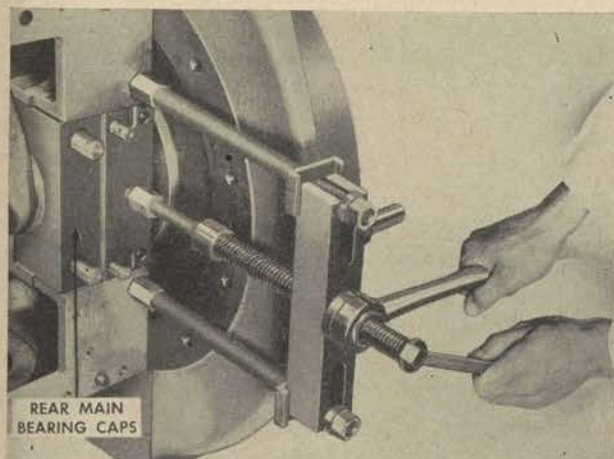
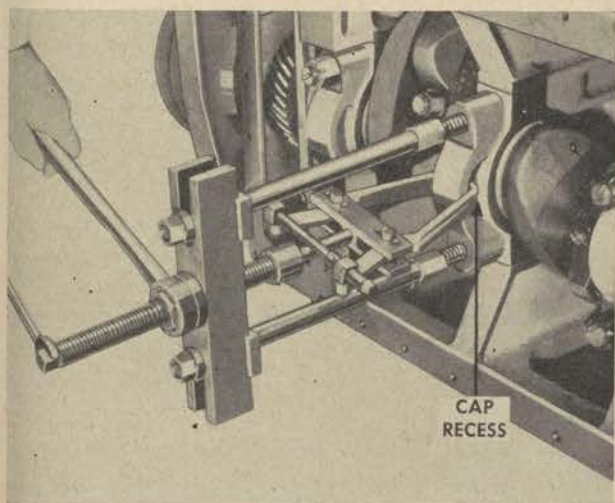

Figure 158. Removing rear main bearing cap. (engine on side).
Figure 159. Pulling bearing caps with tool and adapter (engine on side).
2. The rear main bearing cap (fig. 158) comes drilled and tapped for pulling with bearing puller tool, as shown in figure 159.
4. The remaining caps have recesses (fig. 159), which permit their removal by means of either a pry-bar or a bearing cap pulling tool fitted with an adapter.